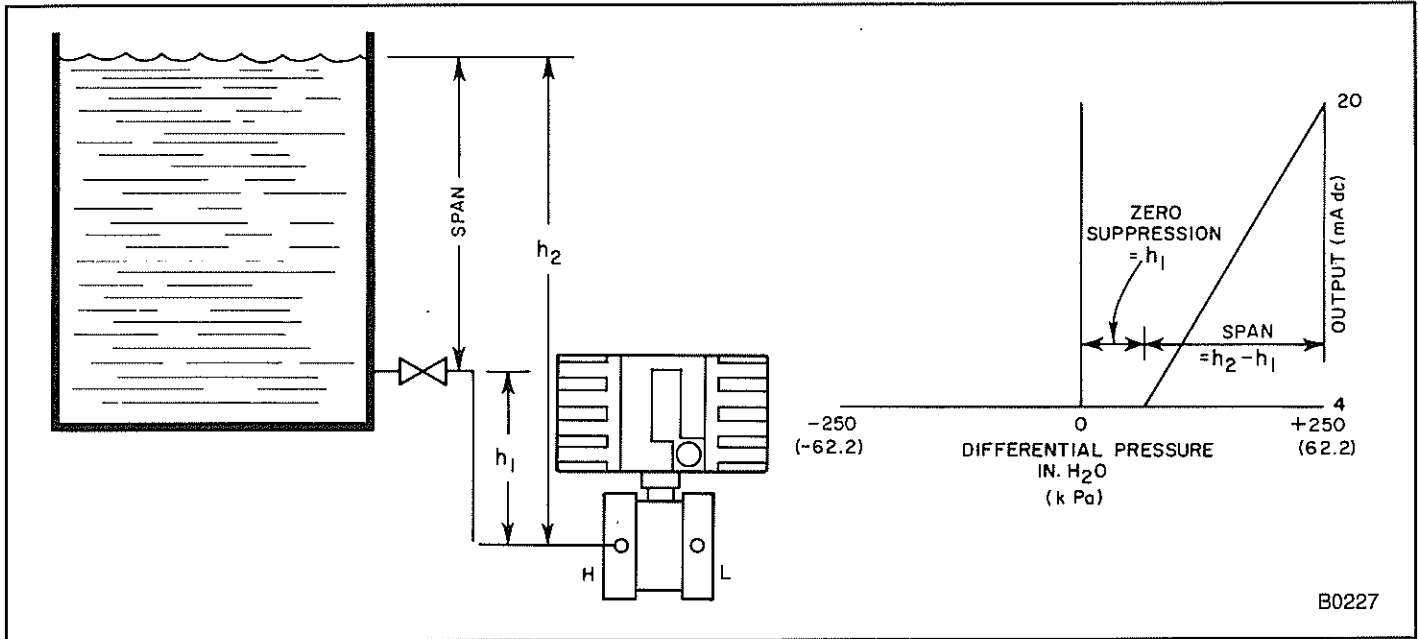
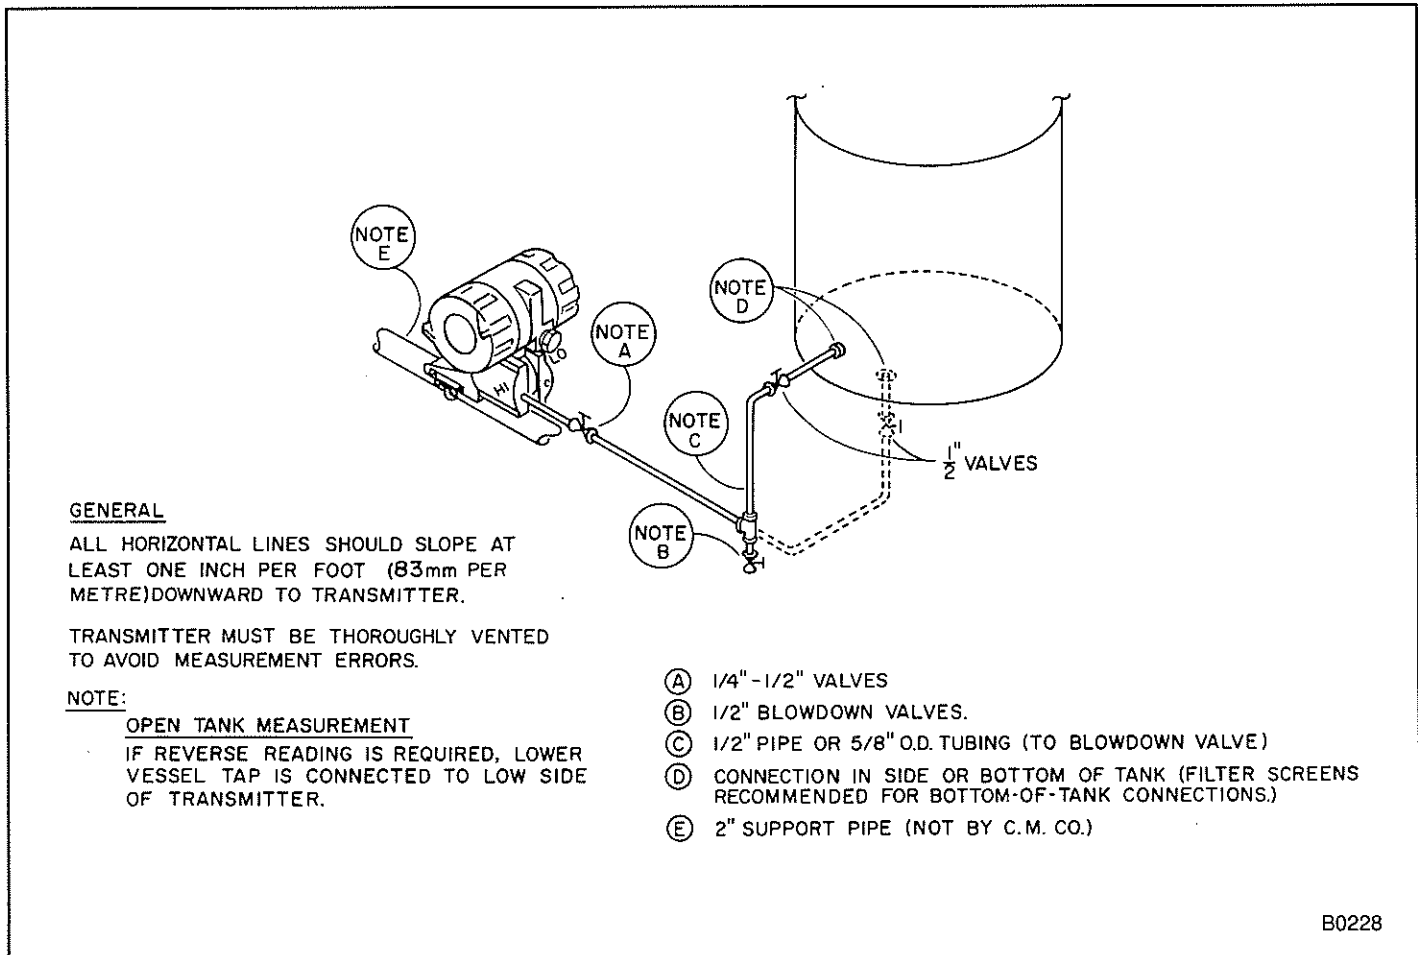

FIGURE 15 – Example of Open Tank Level Measurement
FIGURE 16 – Connecting Piping for Open Tank Level Measurement
**LEVEL MEASUREMENT – OPEN TANK.** In an open vessel, level can be measured by making a pressure measurement at the bottom of the vessel (Figure 15). The pressure at the transmitter “H” connection will be equal to the height of the liquid ( $h_2 \times SG_{liq}$ ). The connection is made to the high (H) side of the transmitter; the low side of the transmitter is open to atmosphere (refer to Figure 16 for typical connecting piping arrangements). The output of the transmitter will be proportional to the level of the liquid above the transmitter. If the zero point of the desired level range is above the transmitter, the transmitter zero must be suppressed to elevate the range.